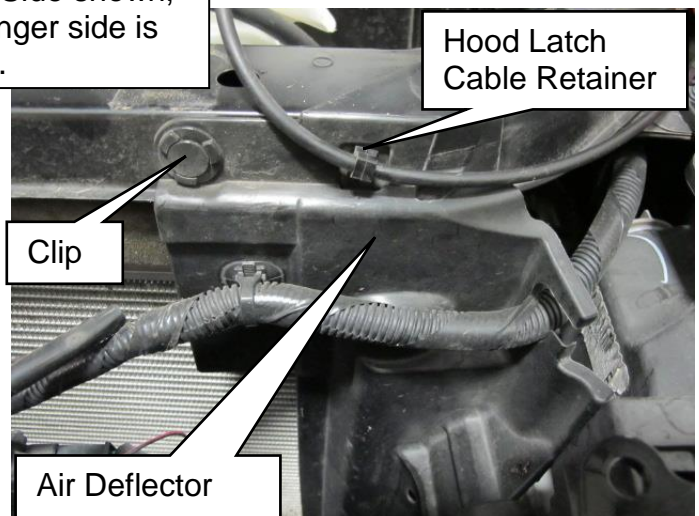

Figure 12
18. Remove the clips from the air deflectors on the front of the radiator core support and release the hood cable retainer. Refer to Figures 12.